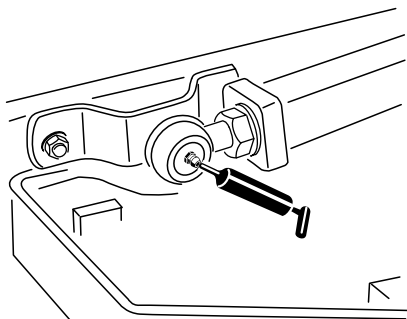

Figure 68
- 2 lift-arm-ball joints (Figure 68)